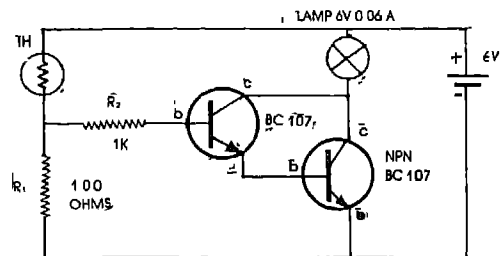

Fig. 13.4
3. A thermistor can be used to give warning of temperature changes and operate as an alarm. As shown in Fig. 13.4 the alarm is a LED, but in a fire control system, the alarm can be a bell.